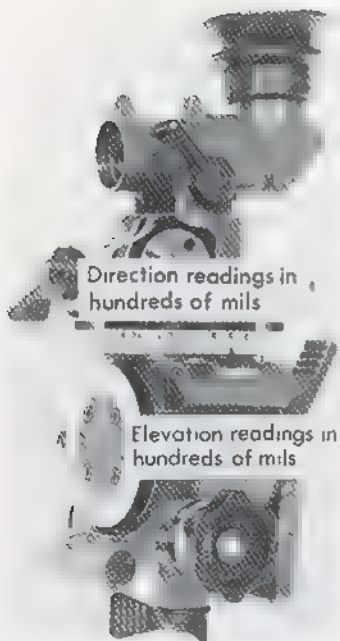
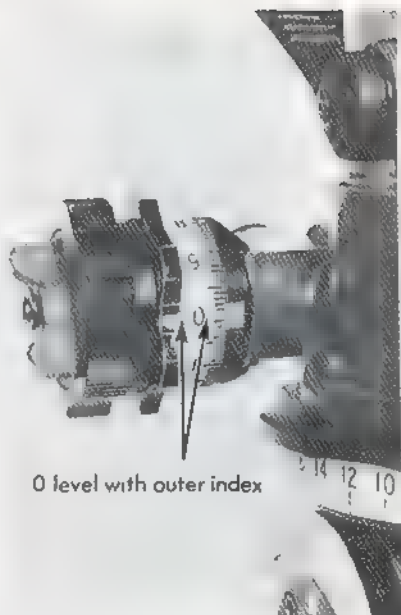

Fig 15.—Direction and elevation readings in hundreds of mls.
Fig 16. Constant setting -fine scale.
- b. On the fine scale, the scale ring is secured by a wing nut. This scale is always to be set with 'O' opposite the outer index before use (see Fig 16). If necessary, to do this loosen the wing nut and rotate the scale, then tighten the wing nut. The inner index indicates the direction reading in tens and units of mils. The scale is numbered every 10 mils.
- (1) Disengage the bearing clamp lever.
- (2) Push forward the fine scale and, ensuring that it is held fully forward, rotate the mechanism until the required hundreds reading (8) on the coarse scale is reached. Release the fine scale and ensure that it engages correctly.
- (3) Rotate the fine scale until the tens and units (20) is opposite the inner index.
- (4) Check the reading on the coarse scale.
- (5) Apply the clamp lever.
- a. The coarse scale is on the side of the sight. It is graduated from 0600 to 1600 mils and is numbered every 200 mils. A pointer indicates the reading in hundreds of mils (see Fig 15).